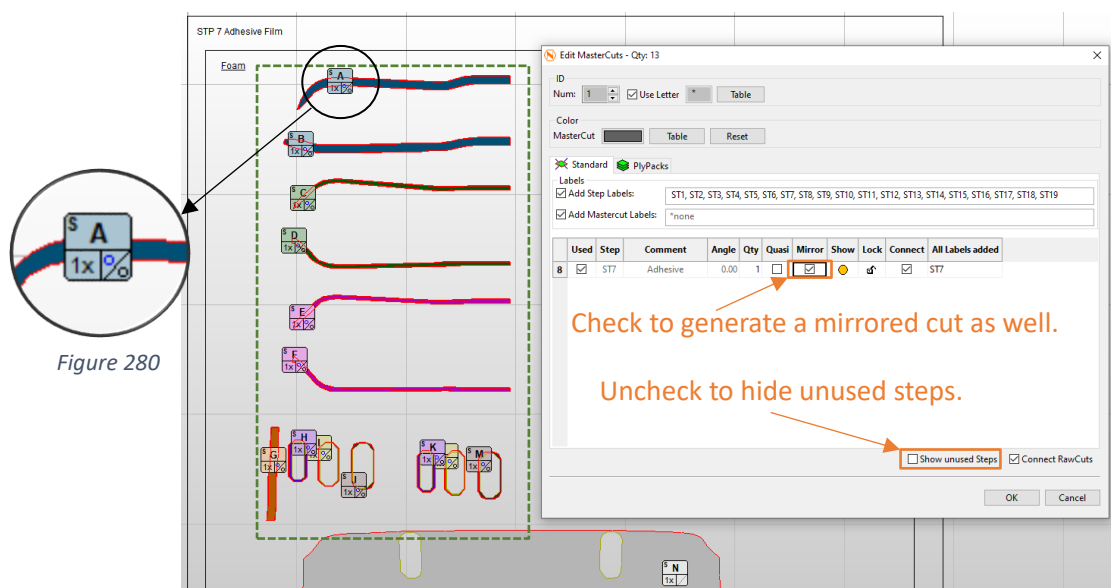

Figure 279
75. To tell NestKing that we need mirrored cuts for our first 13 MasterCuts with ID A to ID M we first select them and open the Edit MasterCuts dialog with a right-click → **[Edit MasterCuts]** (Figure 279).
76. To make the table a little clearer, we can hide all unused steps: Therefor deactivate the **[Show unused Steps]** checkbox as indicated in Figure 279.